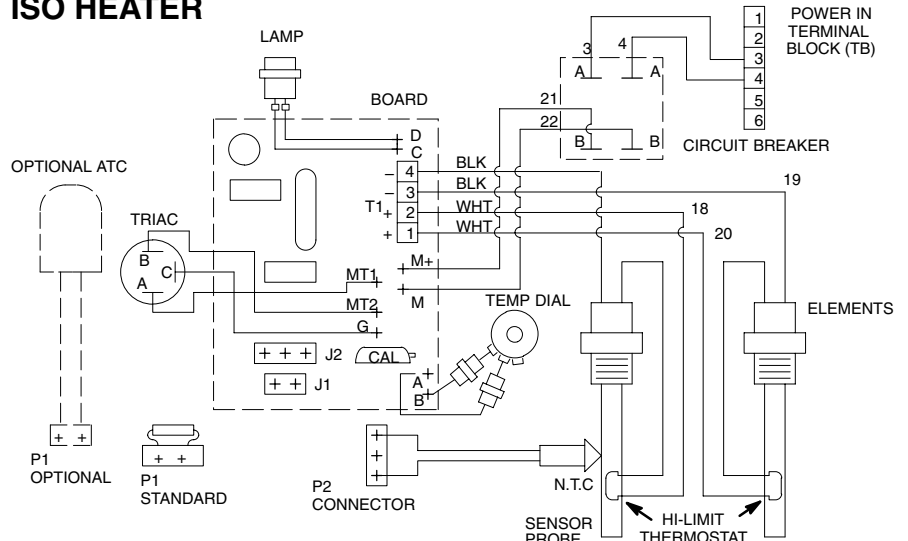

Fig. 19
- Insert the new probe wires into the outer slots of the connectors P2. See Fig. 19, page 29. Do not connect a wire to the center.
16. Remove the control panel cover (216). Guide the wires of the heater up through the bottom of the control box.
17. Remove the strap holding the heater. Position the heater mounting bracket over the threaded shafts of the cylindrical mounts (104 and 105). Install the lockwashers (103) and nuts (102).
19. Reinstall the heater element and thermostat wires at terminal block T1 of the circuit board. See Fig. 19 for the proper wire positions.
20. Reinstall the control panel cover (216).
Heater No. 235840 is shown in Fig. 19. The wiring for Heater No. 235839 is identical *except* the second set of elements (wires 9, 10, 19, 20) are not used.